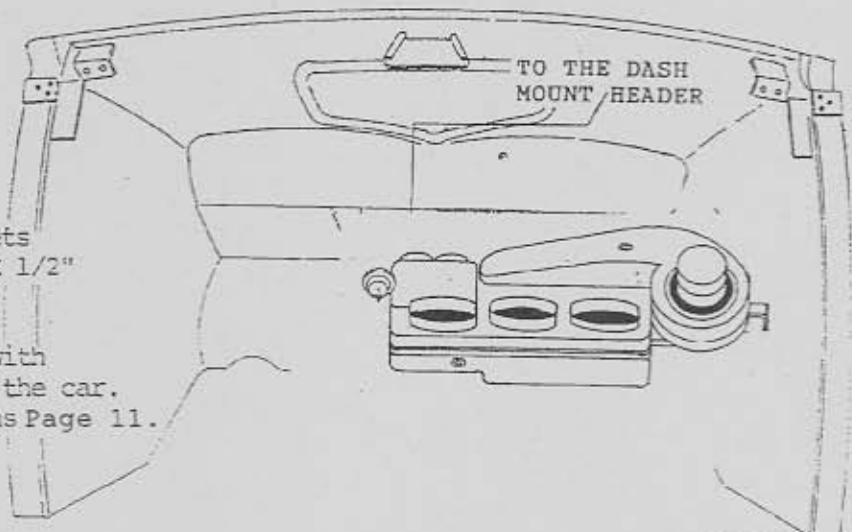

FIGURE 2
3. Brackets are furnished to mount the evaporator case using the cowl vent. (Attach to firewall as shown). Figure 2
4. The cowl vent handle will work if moved to the side. You can also convert to electric or cable operation. If you close off the cowl vent the unit will fit higher in the car. NOTE: To mount unit higher, simply determine the new location, mark and redrill the bracket to fit as described in Step 6. Figure 2
6. Have a helper hold the unit up as high as possible, with blower housing against passenger side kick panel. Locate the bracket on the top right side of the blower housing. Scribe thru the 1/4" hole in the bracket to mark the firewall. Check to see if the location you marked looks ok and will clear obstructions on both sides of the firewall. If so, drill 9/32" hole in the firewall. Attach the evaporator to the firewall by the blower motor bracket with a 1/4-20 x 1" bolt and nut. Using the rear evaporator bracket as a guide mark and drill thru the 1/4" hole in the bracket. Attach this bracket to the firewall with a 1/4-20x1" bolt and nut. This will locate the evaporator horizontally. Now secure the front-evaporator support strap to the unit with the 1/4 - 20 X 1/2" bolt. This support bracket will attach to the dash mount header with the unit held in place and level mark thru the 1/4" hole at the top of the bracket. To the sheet metal header. Make sure that the spot marked will provide a good mounting location for this bracket. Drill a 9/32" mounting hole. Secure the mount strap to the cowl header as shown in Figure 2 with 1/4-20 x 1" bolt and nut.